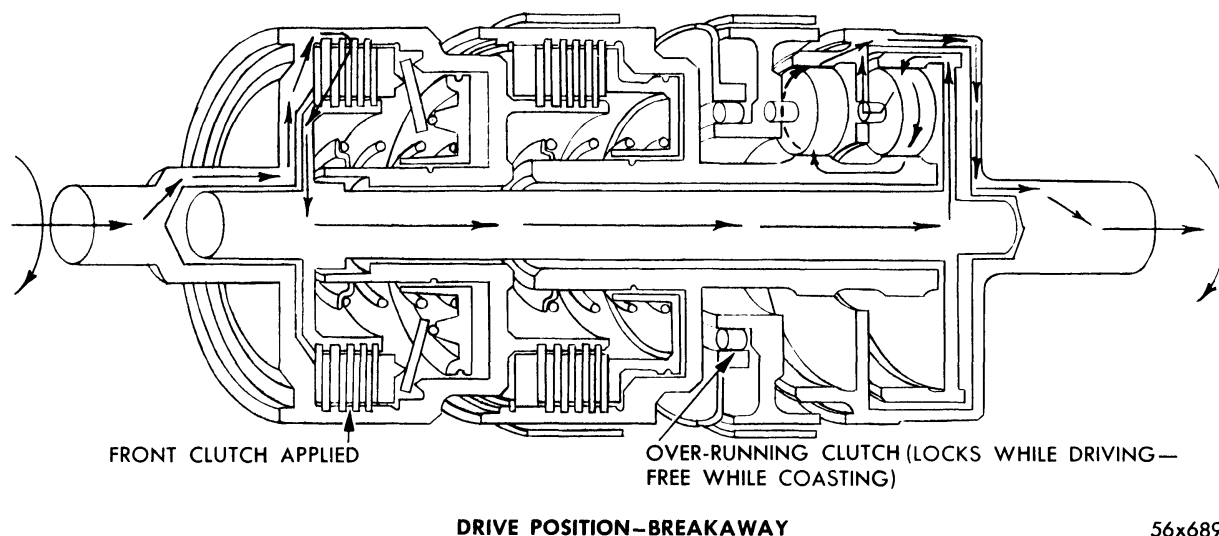

Fig. 4—Power Flow in D (Drive) Position—Breakaway
a. (Drive) Position Breakaway (See Fig. 4)